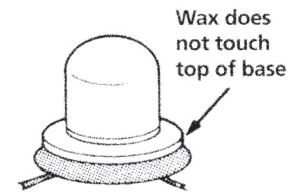

Fig. 7
4. Wax a strip of 14-gauge sprue wax around the base of the attachment (Fig. 7). Do not get any wax on the top of the attachment base. When boiled out the wax will create a channel for even heating. Invest in soldering investment.